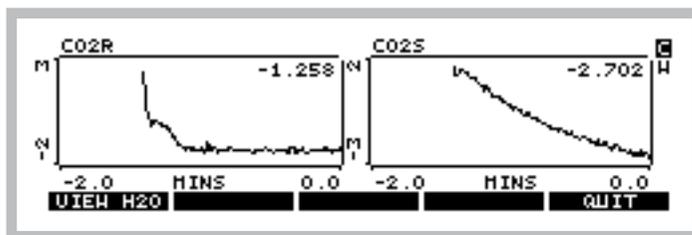

Figure 18-2. Pressing **plot** (f4) brings up strip charts for H₂O and CO₂. Switch between the two by pressing **C** and **H**, or **f1**.
Watch CO₂R_μml and CO₂S_μml (reference and sample cell CO₂ concentrations), and also their rates of change (Slp(CR) and Slp(CS)). and when they get as low as they will go, you are ready. (If you wish to see this graphically, press **Plot** (f4). A typical plot is shown in Figure 18-2). To return to the normal text display, press **escape** or **QUIT**). It should take less than 2 minutes to get reasonably stable readings.